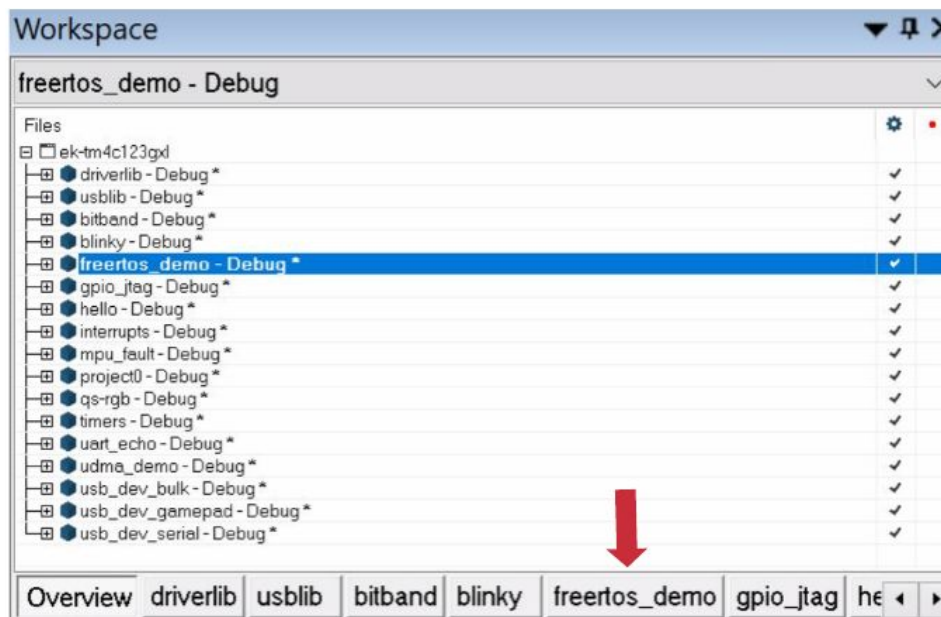

Figure 6: The ek-tm4c123gxl IAR Workspace Panel (with emphasis on the freertos_demo project)
4. Once you have opened IAR, you'll find a list of subdirectories in the workspace panel. We only need the freertos_demo directory for this task. Click on the freertos_demo at the bottom of the workspace panel to enter the directory, as emphasized by the red arrow in Figure 6.